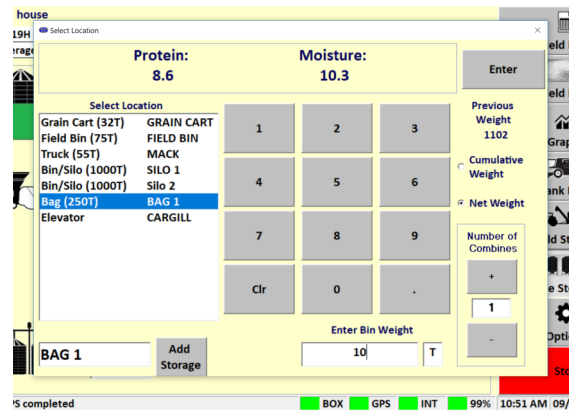

Figure 3-21. Grain Logistics Grain Tank Weight Counter.
- (Optional) Enter the max Tank Weight for each Crop Type. When a Default Tank Weight is entered the Grain Logistics Software will populate the nominated default tank weight into the Tank Weight Counter as shown in figure 3.21.